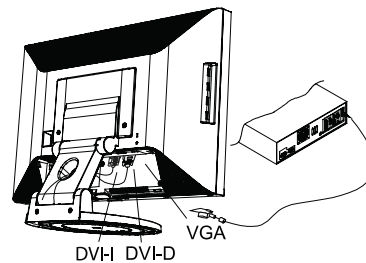

Figure 1-3
2. Connect one end of the signal cable to the LCD Monitor's VGA port or DVI-D port or DVI-I port. (See Fig 1-3)